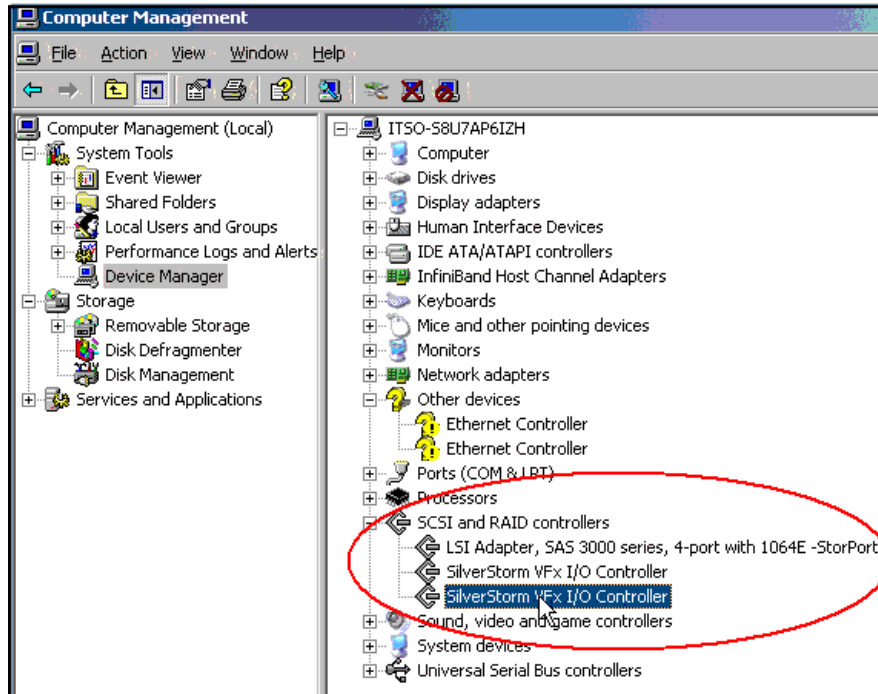

Figure 4-69 VFX I/O Controller now enabled in Device Manager
23. Back on the windows blade, open device manager. Find the VFX (I/O) Controller that you used to create your direct SRP mapping (Figure 4-69). Right-click the controller to disable then re-enable it. The exclamation point (!) should go away and your mapping is now active. I/O Controller 2 was used for the direct mapping.